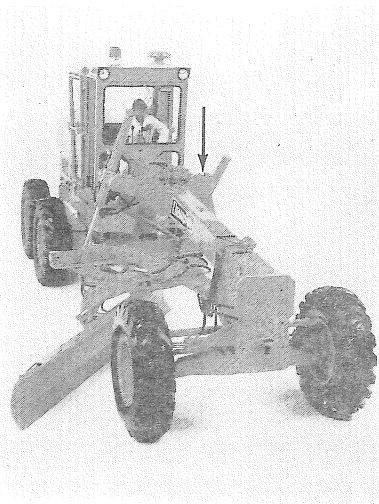

Figure 2
3. With the moldboard resting on the ground, operate the left hand blade lift cylinder sufficiently to take the weight off the arm latch pin. By disengaging the latch pin from the arm and retracting the left hand blade lift cylinder, position the left hand arm as shown in Fig. 2.